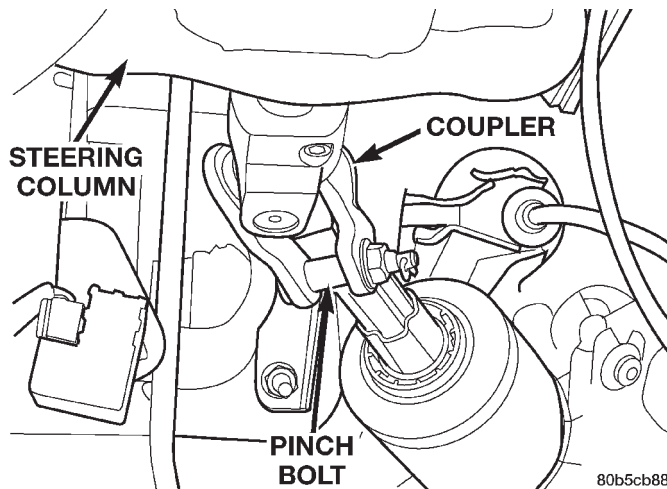

Fig. 8 Steering Column Coupler
(10) Remove the retaining pin and the coupler bolt from the steering column coupler (Fig. 8). Separate the intermediate steering shaft from the steering column coupler.